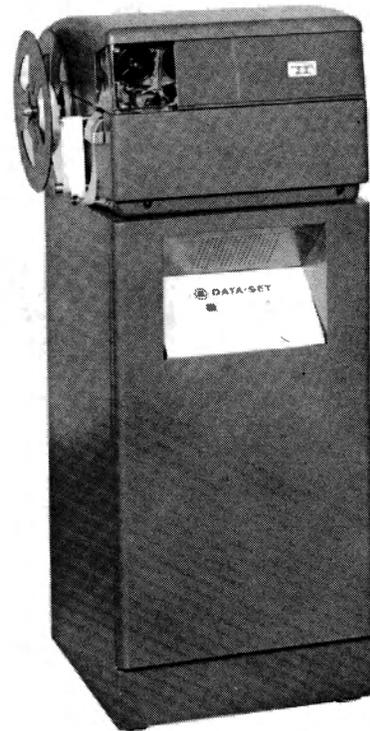

Figure 1 - 37 ROTR Set
1.01 This section is issued to provide removal and replacement instructions for the major components of the 37 Receive-Only Typing Reperforator (ROTR) Set (Figure 1).